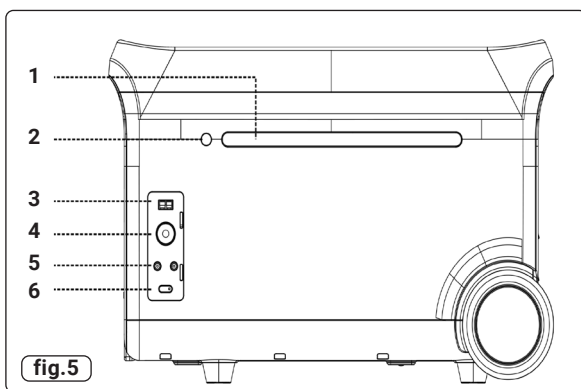

Figure 5 Key
- **BATTERY CHARGING PROCESS** (fig.5)